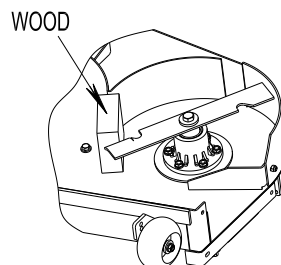

FIG 5 BLADE INSTALLATION
- Re-install the blades (if they were removed) by placing a block of wood between the front or rear baffles and the blade, then torque the blade bolts to 115-120ft-lbs(156-163N-M). Be sure the spring disk washer cone is installed toward the bolt head. (See Figure 5).